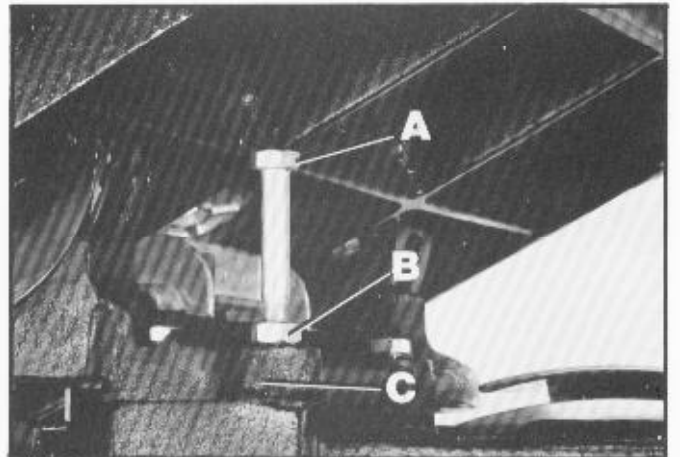
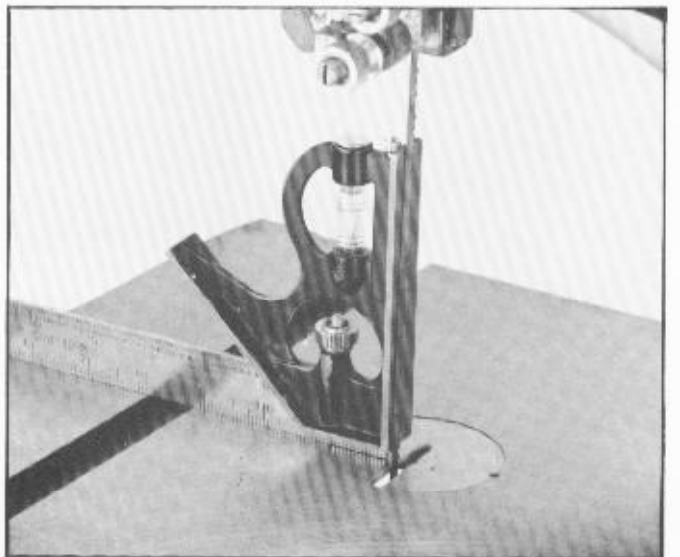

Fig. 13
Fig. 14
The band saw is equipped with an adjustable table stop (A) Fig. 13, that allows the table to be set perfectly at 90 degrees with the blade.
Tilt the table to the left until the table stop (A) Fig. 13, contacts the bottom of the table. Place a square on the table and against the blade as shown in Fig. 14, and check to see if the blade is 90 degrees to the table surface. If an adjustment is necessary, proceed as follows:
2. Turn adjustment nut (B) Fig. 13, right or left as necessary to raise or lower table stop (A). **IMPORTANT:** Certain models of band saws will have an additional locknut assembled to the end of the table stop (A) Fig. 13, directly under casting (C). Loosen locknut and turn adjustment nut (B) right or left as needed to raise or lower the table stop (A). Tighten locknut after adjustment is made.
3. Lower the table and make certain the table is 90 degrees to the blade as shown in Fig. 14.
4. It is necessary to remove the adjustable table stop (A) Fig. 13, when tilting the table to the left.